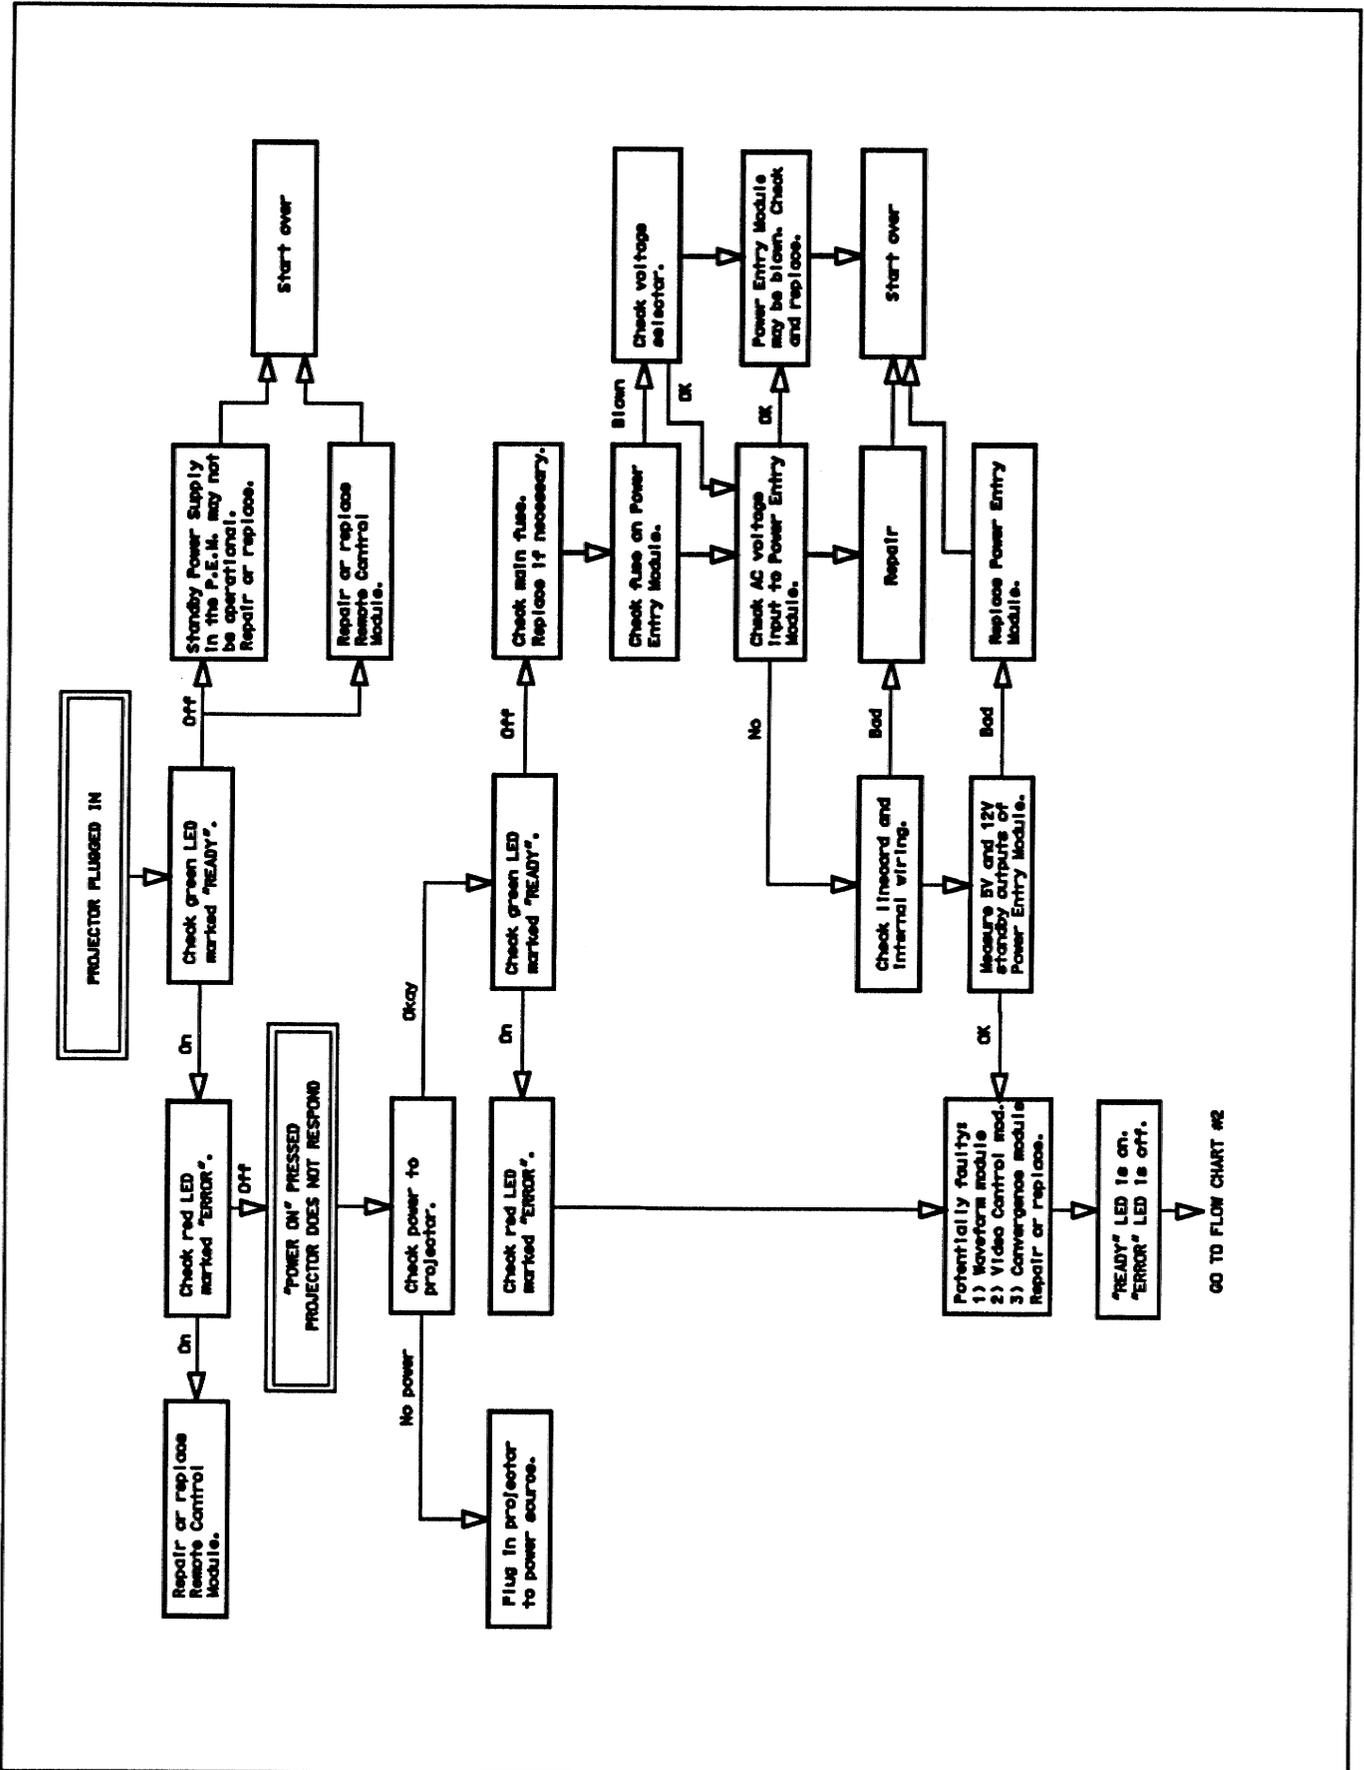

FIGURE 6-1. Flow Chart #1
- Ⓞ *Troubleshooting Flow Charts* (Figures 6-1 to 6-5)